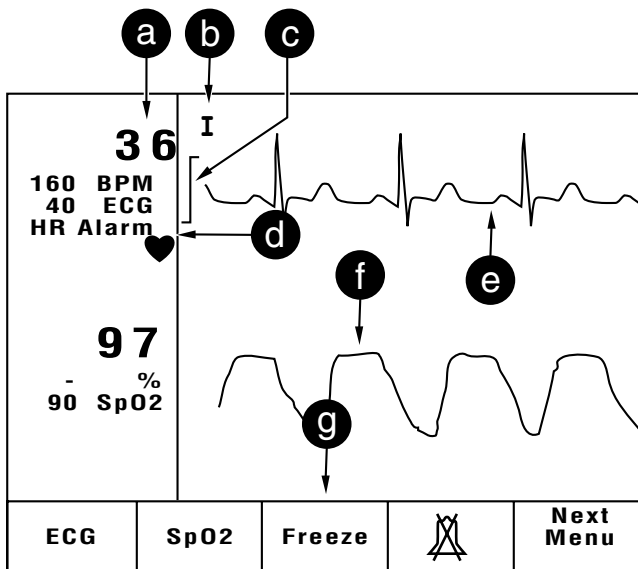

Figure 6-5. Main display
- the alarm cause is shown in the display (d, Figure 6-5)